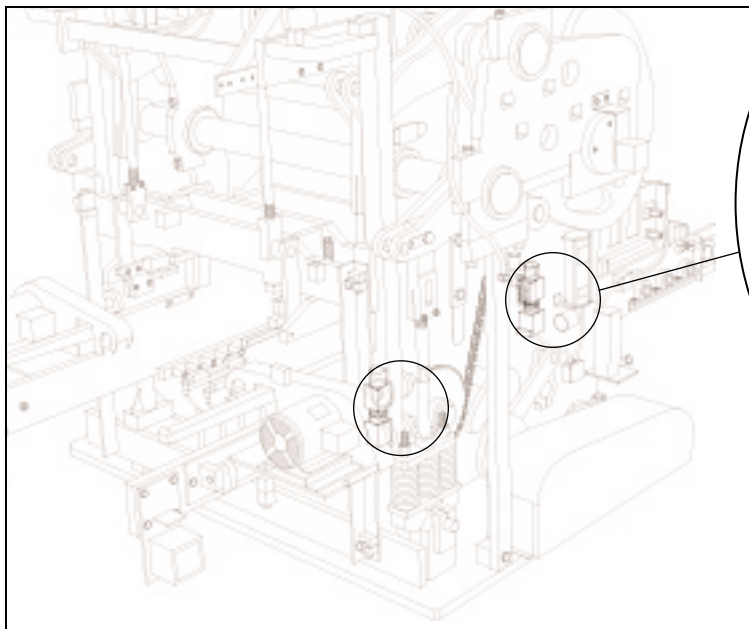

Figure 4.54 BOLTS AT ALL 4 CORNERS. (RIGHT SIDE SHOWN)
- b. Loosen bolts at all 4 corners that secure mold throat assembly (figure 4.54 and 4.55). Remove top spacers.